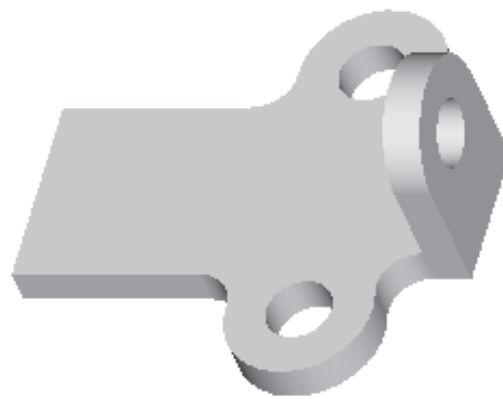

Figure 6-26 Model after creating the second feature
10. Choose **OK** from the **Protrusion** dialog box. The default shaded trimetric view of the model after creating the second feature is shown in Figure 6-26.